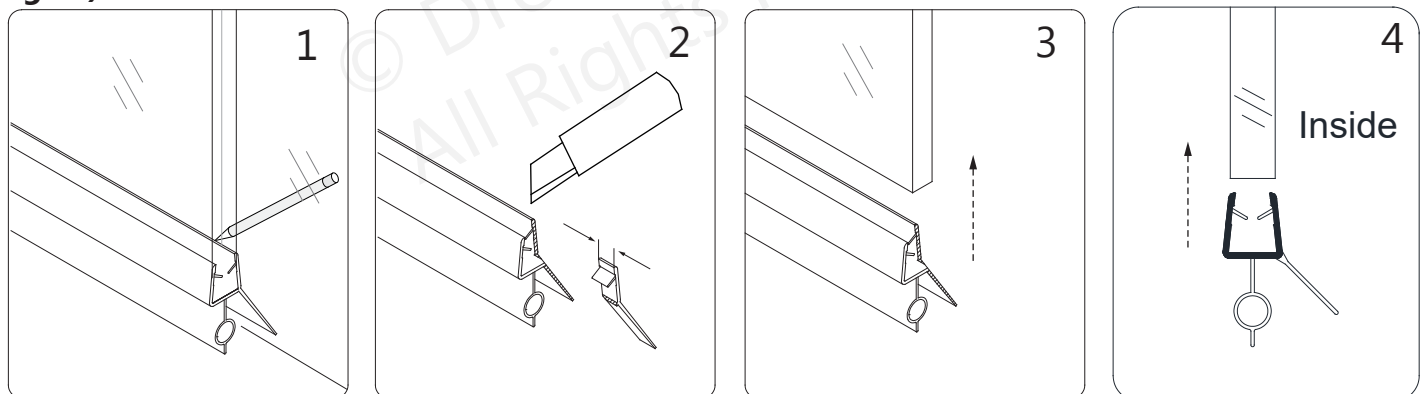

Fig 20
20. Press the **Sweep Vinyl (#08)** firmly onto the bottom edge of the **Door Glass (#06)** and close the door. From inside the shower, mark the inner aspect of the sweep where it overlaps the strike vinyl. Cut off approximately 3/8" and remove only the inner aspect of the **Sweep Vinyl (#08)** (See Fig 20.2). This will allow the door to close and seal evenly against the strike vinyl, without leaving any gaps. **(Fig 20)**